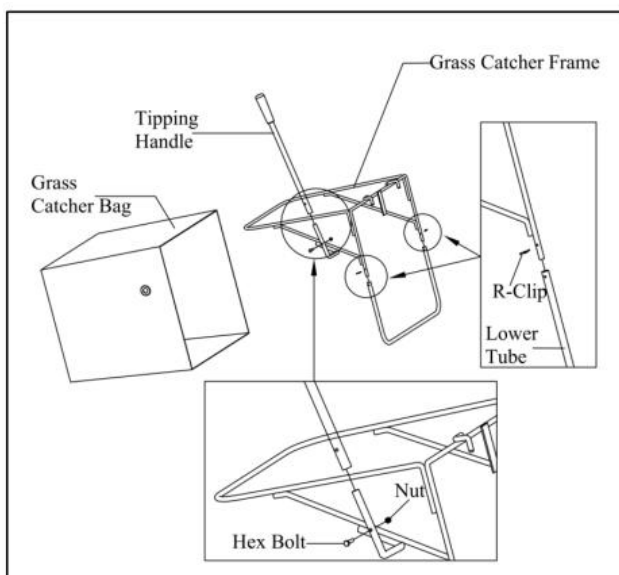

Figure 5
- 1) Assemble lower tube of grass catcher to the main frame of grass catcher. Use R-Clip to fix(Figure 5).
- 3) Assemble grass tipping handle with fasteners as shown(Figure 5).